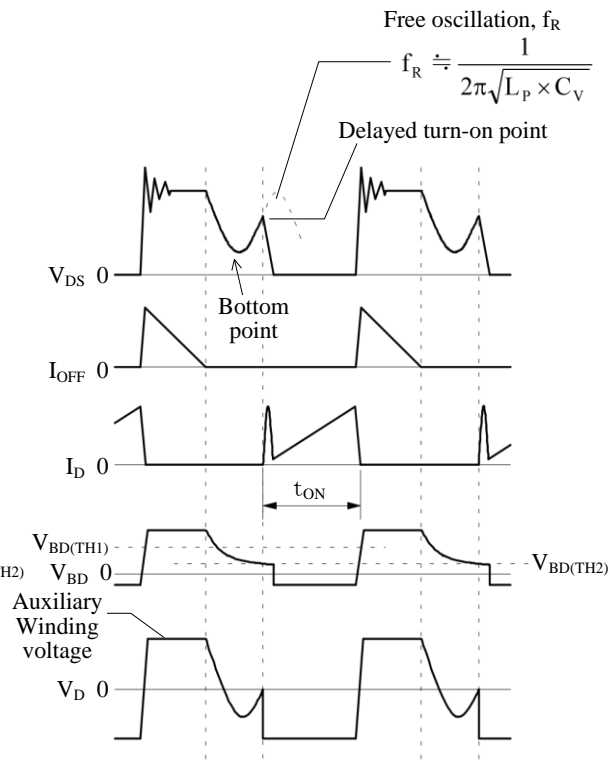

Figure 8-15. When the Turn-on of a  $V_{DS}$  Waveform Occurs after a Bottom Point
- In the converse situation, if the turn-on point lags behind the  $V_{DS}$  bottom point (see Figure 8-15), it causes higher switching losses also. After confirming the initial turn-on point, advance the turn-on point by decreasing the  $C_{BD}$  value gradually, so that the turn-on will match the bottom point of  $V_{DS}$ .